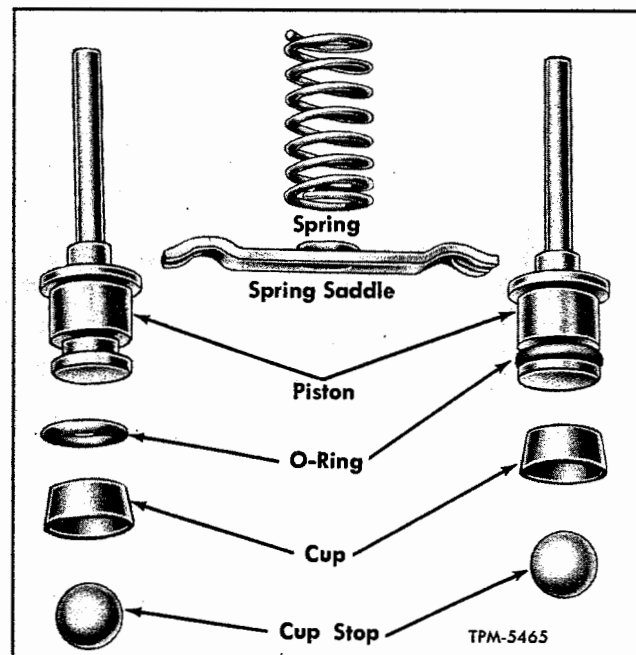

Figure 31—Unloader Assembly Components
4. Unloading Pistons (Fig. 31). Inspect pistons for signs of damage or excessive wear. With new O-rings, unloading pistons should slide easily in bores. Check bores for scratches or damage that might increase O-ring wear. Check unloading piston return spring dimension and compare with "Specifications" listed at end of this section. Replace spring if necessary.